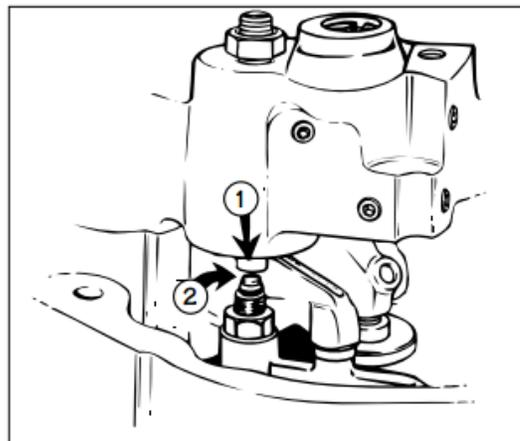

FIG. 12
4. Refer to Fig. 12. Be sure the slave piston foot (1) is aligned squarely over the bridge screw and pin assembly (2) to insure full contact of the exhaust valve stem. Reposition the housing if necessary.